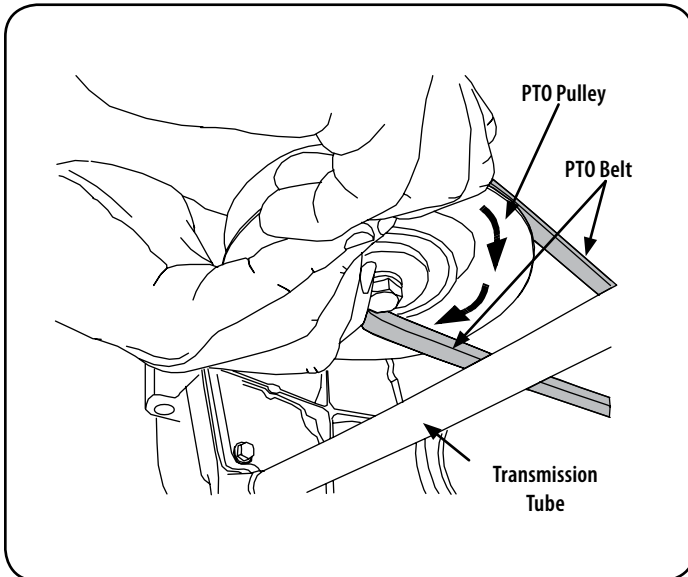

Figure 38
- d. While still holding the belt downward, continue turning the PTO pulley until the belt is rolled off the pulley. Refer to Figure 38.
11. Pull the right side of the belt rearward and place the narrow V side of the belt into the PTO pulley. See Figure 38.
12. While holding the belt and pulley together, rotate the pulley to the left (See Figure 38). Continue holding and rotating the pulley and belt until the belt is fully rolled into the PTO pulley.